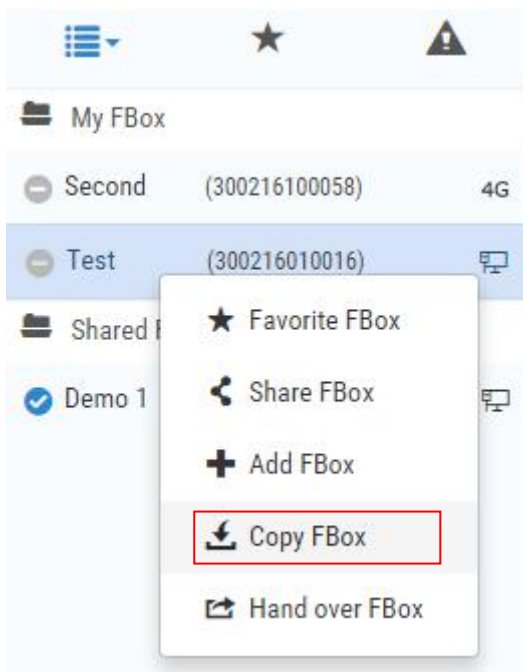

Fig. 4.5-20 Copy FBox
(1) After selecting the FBox device to be copied and clicking the right mouse button in the FBox device list, a shortcut menu will pop up, as shown in Fig. 4.5-20.